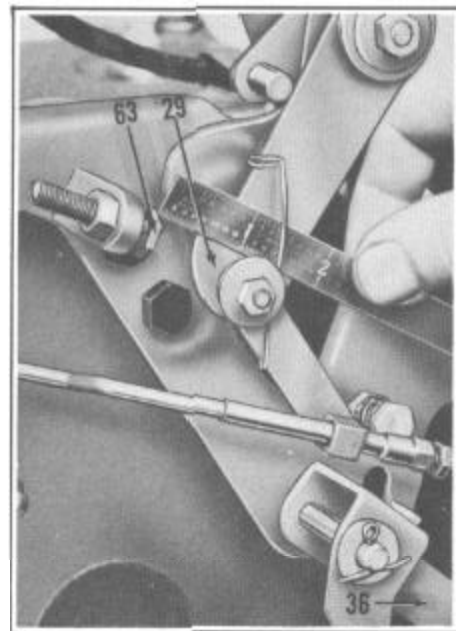

FIGURE 25
Back out cam adjusting screw (63), Figure 25, until there is approximately 1/2" gap between cam (29) and screw (63). Depress clutch pedal (IMPORTANT) and start engine; hold clutch pedal down until clutch control unit cylinder takes up load. **DO NOT RACE ENGINE.** Put transmission in second gear and release the brakes. Slowly rotate throttle bellcrank (36) until clutch drags.